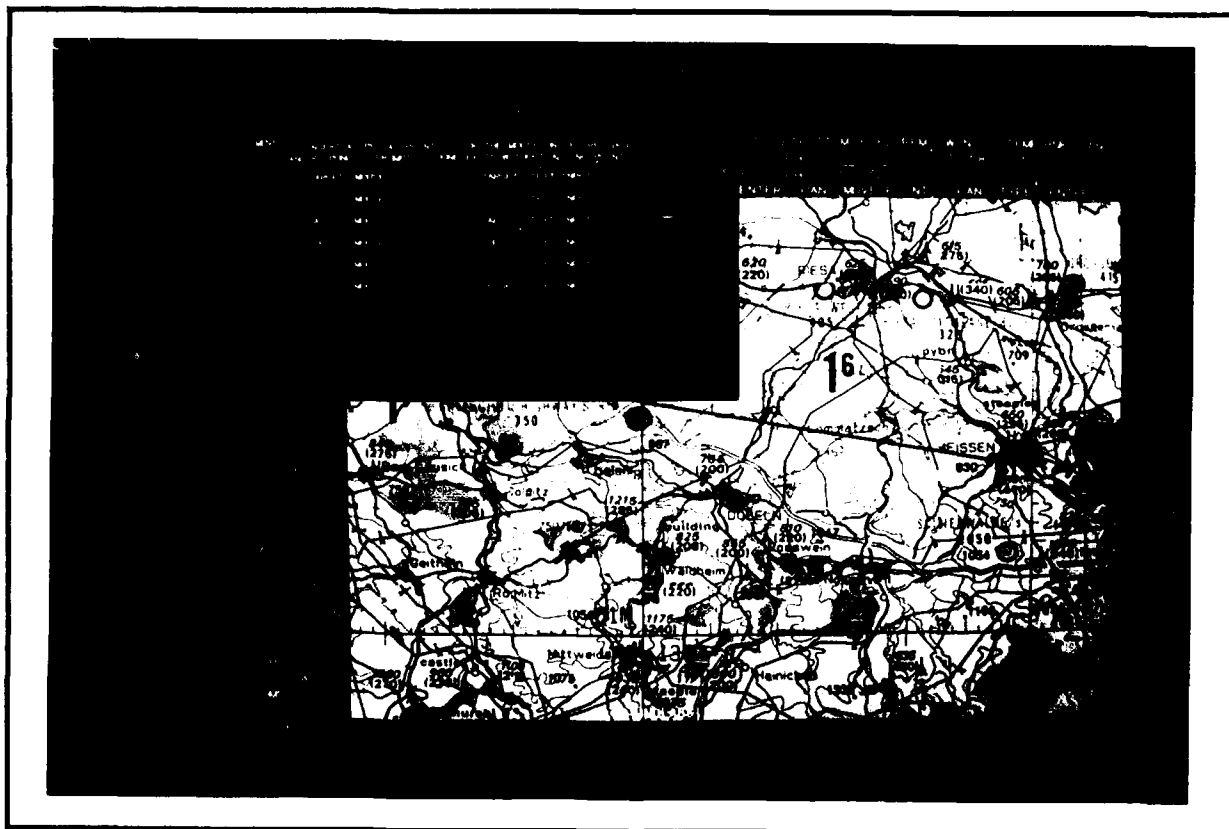

Figure II.2-1 Special Point (SPPT) Menu
12. Insert an Initial Point (IP) into the route. The Initial Point is a 'special point' and can be inserted into the route using the SPECIAL POINTS command box on the RGEN menu. Position the cursor on the SPECIAL POINTS command box and click the mouse. The SPPT (Special Point) menu is then displayed (Figure II.2-1). Click the mouse on the IP (MOUSE) command box, then use the mouse to position the cursor at the location on the map where you want the IP and click the mouse. The IP you just inserted is now the selected waypoint.